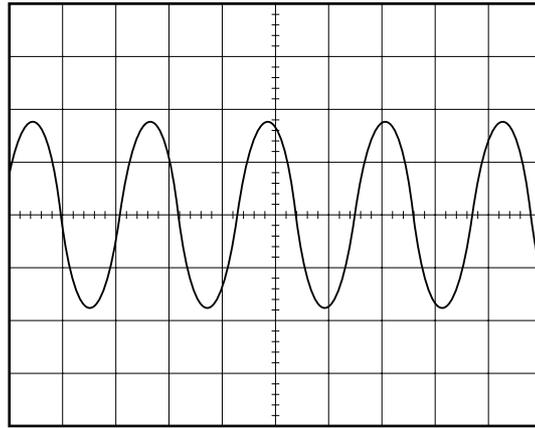

Figure 10. RF adjustment.
- 9 Adjust L202 for max amplitude and IF $455 \pm 1,5$ kHz, see figure 10.